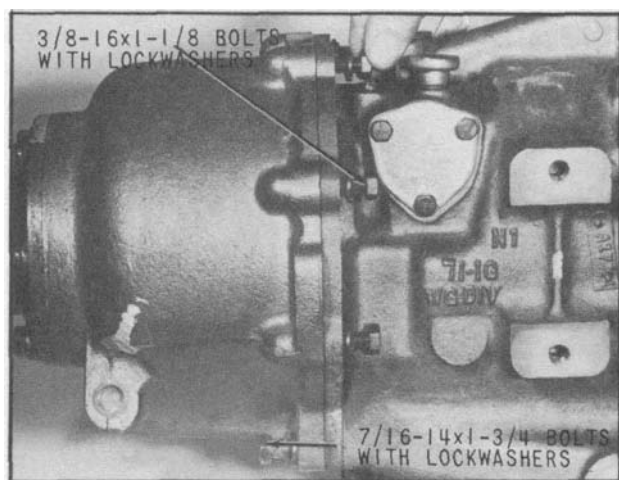

Fig. 29 Installing Reduction Housing Retaining Bolts
30. Install the six 3/8-16 x 1-1/8 hex head bolts and lockwashers and the two 7/16-14 x 1-3/4 hex head bolts and lockwashers as shown in (Fig. 29). Torque the 7/16 bolts to 42-50 pounds feet and the 3/8 bolts to 27-32 pounds feet.